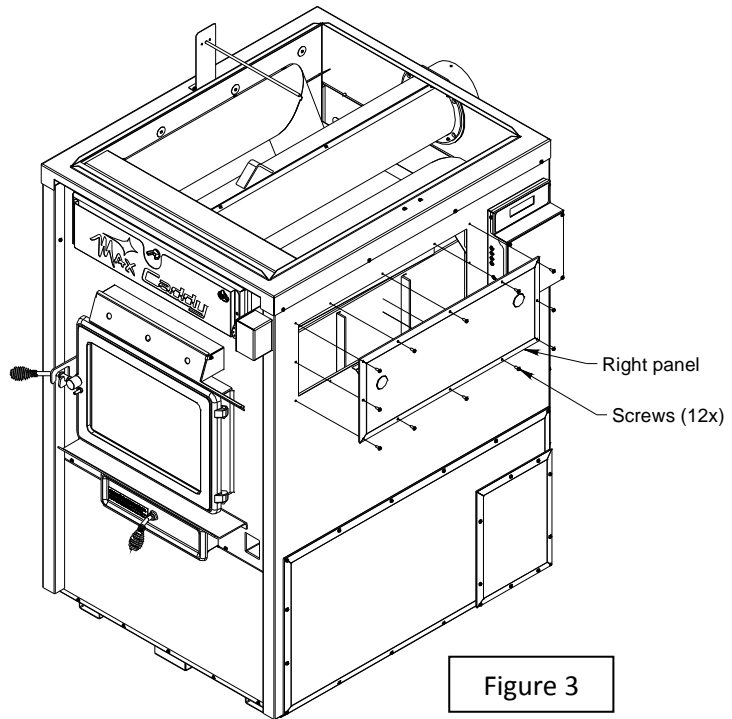

Figure 3
Step 2: Remove the right panel as shown in figure 3 and save the screws for step 5.